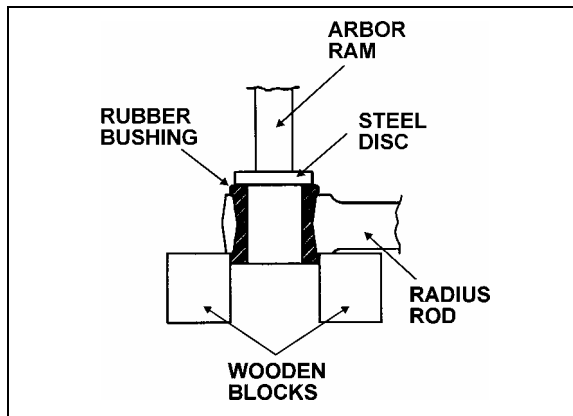

FIGURE 10: RADIUS ROD BUSHING REMOVAL 16011
1. Safely support the radius rod as shown in figure 10.
2. Place a flat steel disc, slightly smaller than the outside diameter of the bushing (Fig. 10).